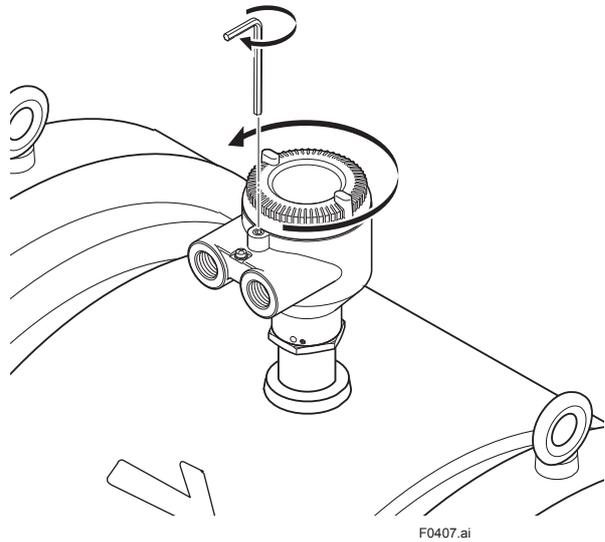

Figure 4.1.7 Removing the Terminal Box Cover
- When opening the terminal box cover, use a hexagonal wrench (nominal size 3 mm). For handling the locking screw, refer to Figure 4.1.7.